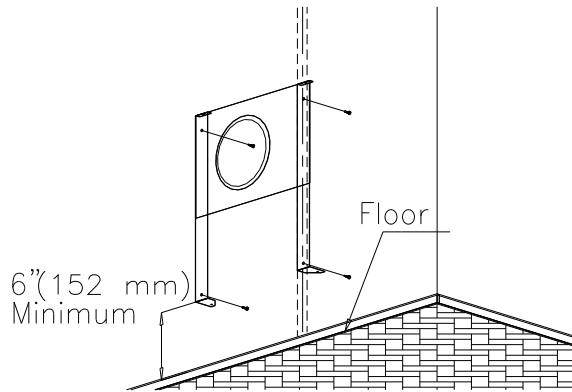

Figure 9
2. Place wall bracket over the hole. After leveling the hanging bracket, mark the four holes as shown in figures 9 and 10.